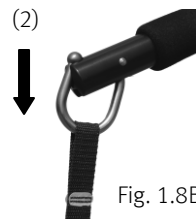

Fig. 1.8B
(2) The strap is pulled downwards so that the hook closes. (Fig. 1.8B)